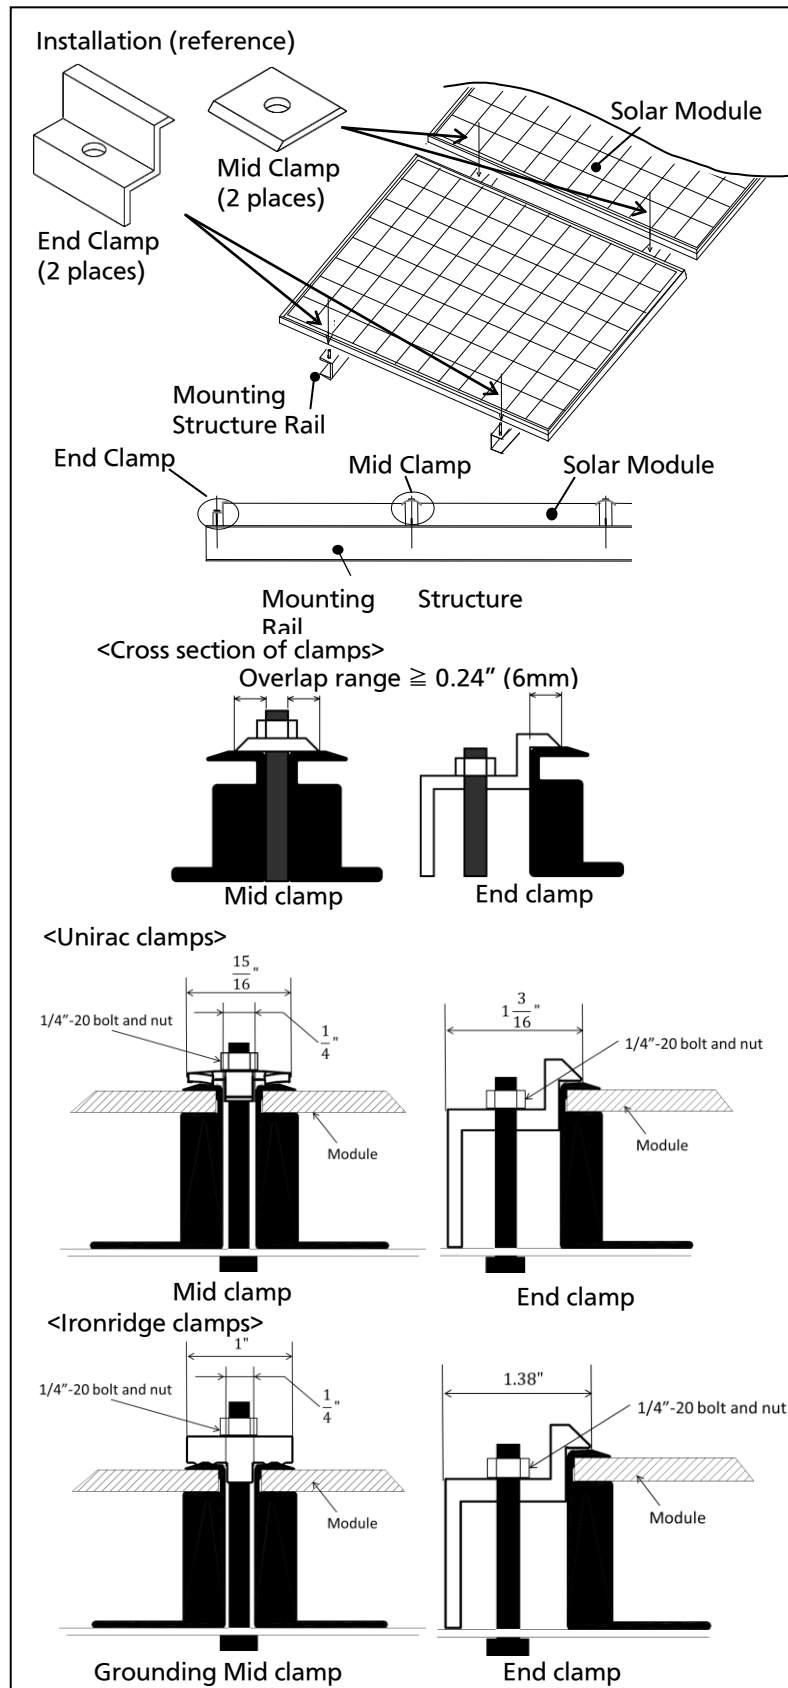

Figure 1-1. Installation
- Panasonic recommends the installation method and mounting profile shown in Figure 1-1 and Figure 1-2.
- Figure 1-1 shows that a module should be attached on a mount or support structure rail by corrosive-resistant metal clamps.
- The module was tested using Unirac or IronRidge clamps with the specifications see figure 1-1 and below;